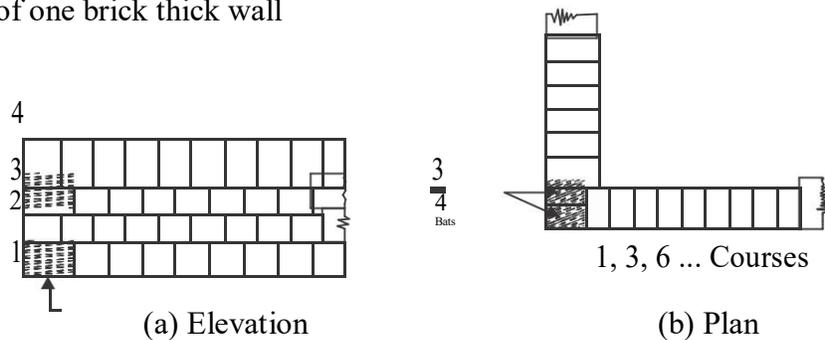

Fig. 2.6.2 Header bond
**Header Bond:** A header is the shorter face of the brick as seen in the elevation. In a standard brick it is 90 mm × 90 mm face. In header bond brick masonry all the bricks are arranged in the header courses as shown in Fig. 2.6.2. This type of bond is useful for the construction of one brick thick wall